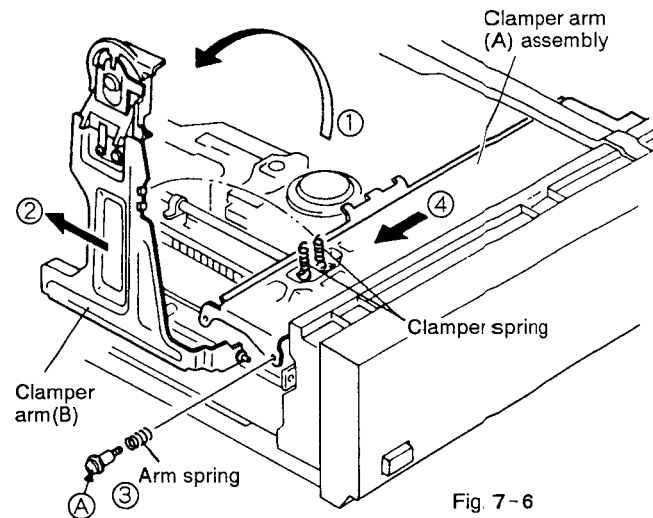

Fig. 7-6
### 7.4 REMOVING THE CLAMPER ARM (B) AND CLAMPER ARM (A) ASSEMBLY (Fig. 7-6)